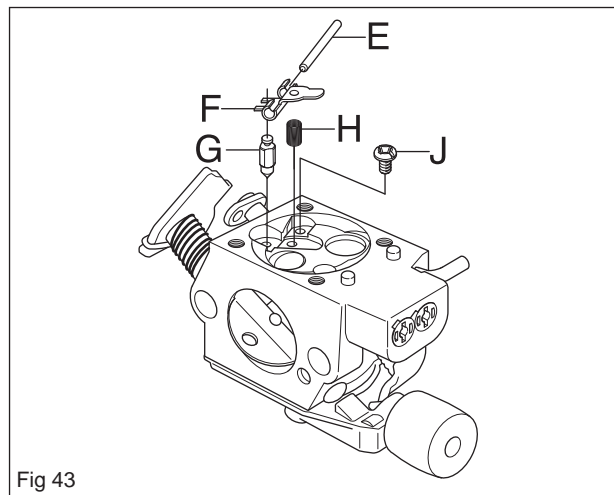

Fig 43
5. Assemble needle valve G with lever arm F, shaft E and spring H, and tighten screw J (see figure 43).